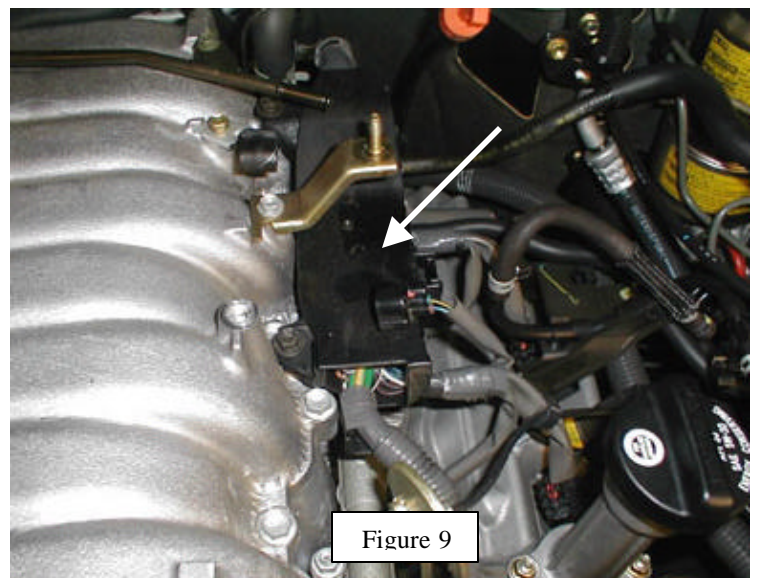

Figure 9
16. On Land Cruiser and LX470, remove driver-side wire loom housing from the intake manifold (Figure 9).